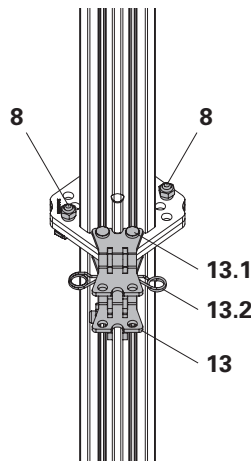

Fig. A5.01a
1. Remove 2x Collar Pin Ø12 mm (13.1) from the Brace Connector MP MR (13).
2. Push Brace Connector MP MR (13) over both end plates.
3. Fasten with both Collar Pins Ø12 mm (13.1) and secure with Cotter Pins 3.2/2 (13.2). (Fig. A5.01a)